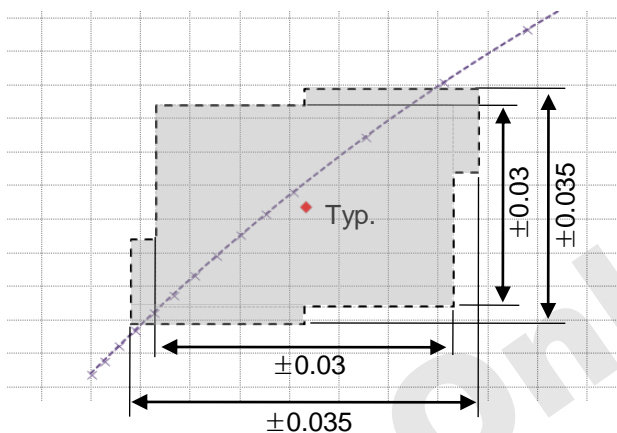

FIG. 2 Tolerance of White color coordinates
6. White color coordinates tolerance is 0.035, In the case of more than Wx typical target and Wy typical target + 0.01, in the case of less than Wx typical target and Wy typical target - 0.01, in the remaining area is 0.03, see the FIG. 2.